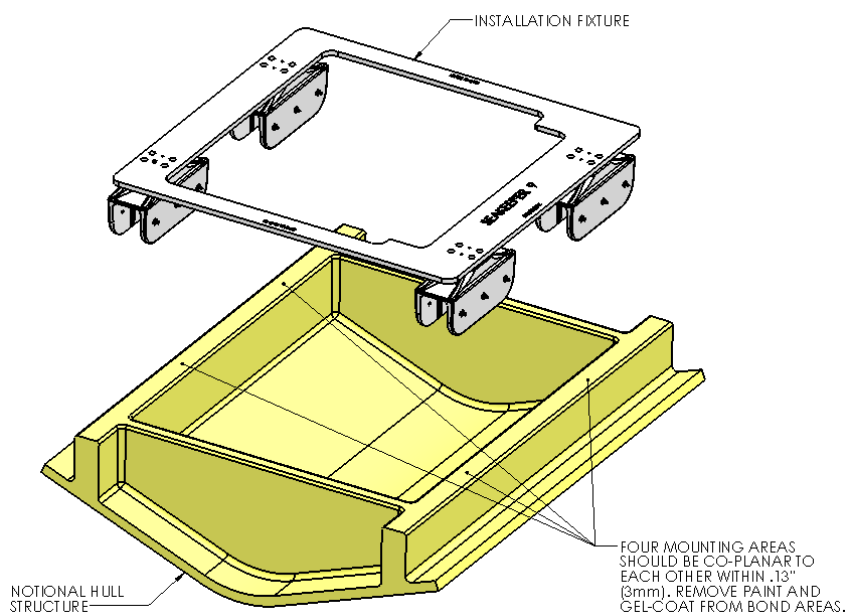
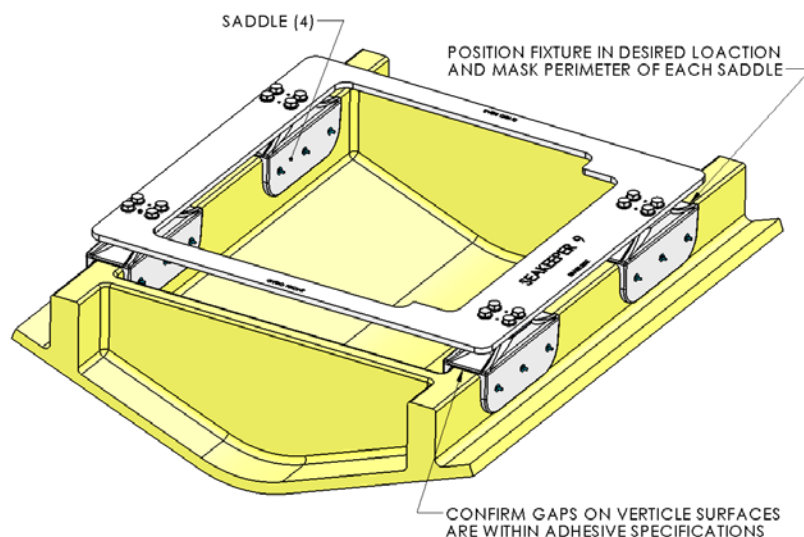

FIGURE 8 - INSTALLING FIXTURE ON HULL
FIGURE 9 - MASKING PERIMETER OF SADDLES
- 1) Position installation fixture (Fig 8) on hull girders noting recommended clearances for maintenance from Figure 2. Check that the screws fastening the saddles to the installation fixture are tight (Fig 6).
- 2) Mask hull area (Fig 9) around foundation saddles for easy clean-up and to create outline of surface area to receive adhesive as (Fig 8). Insure that the bond gap is within Seakeeper's recommended thickness, or 3mm if using Plexus MA590.
- 3) Raise fixture clear of foundation. Check all four mounting areas are co-planar to within .13" (3 mm) to each other, as well as parallel to the water line plane, as shown in Fig 8.
- 5) Remove any paint or gel-coat from bond surfaces so that adhesive will bond directly to laminate fibers and resin as shown in Figure 8.